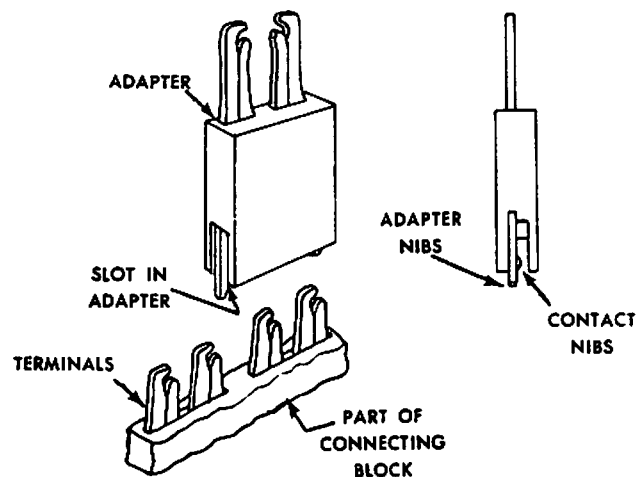

Figure 8. HT200473 Terminal Adapter
- c. Press adapter in until firmly seated. See Figure 8.